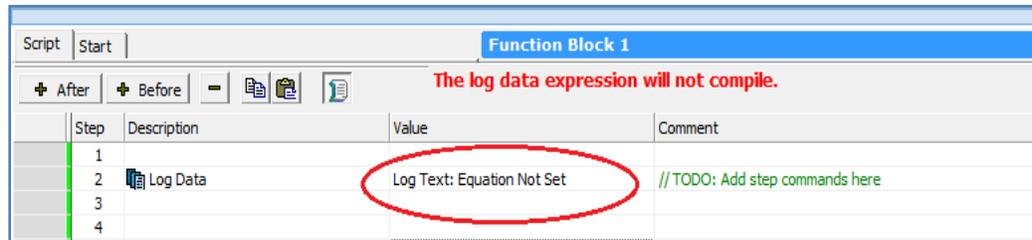
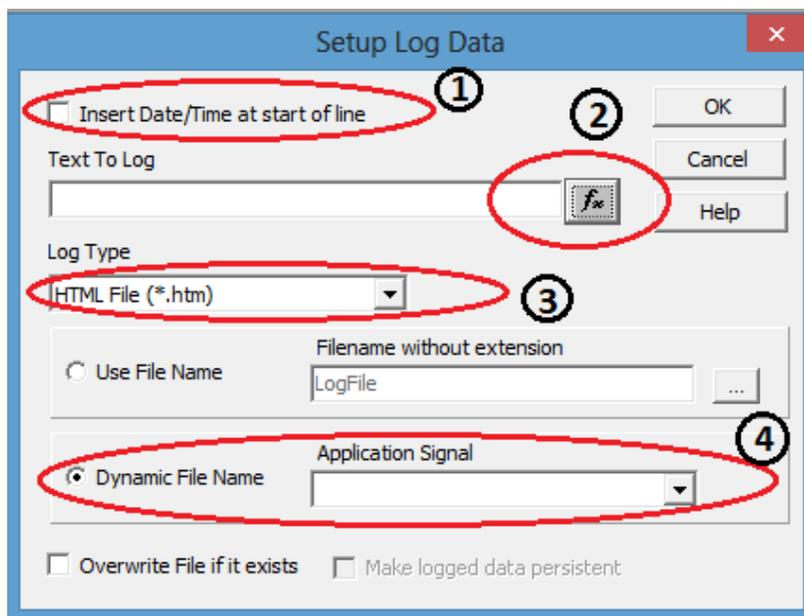
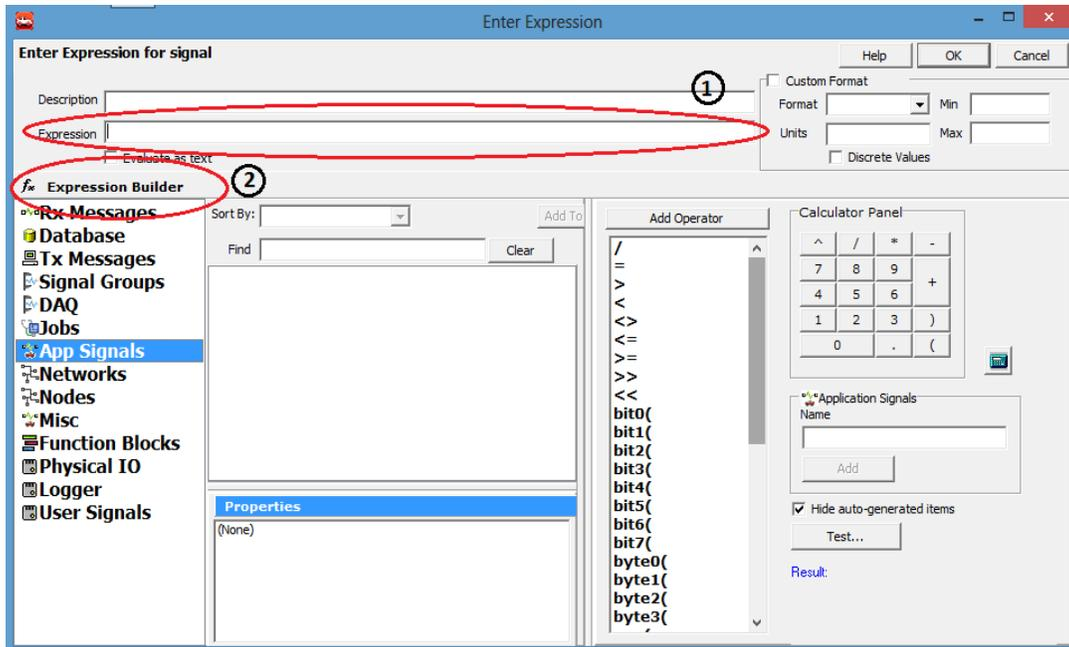

Figure 2: 'Log Data' command view
Figure 3: 'Log Data' Command setup
Figure 4: 'Enter expression' window configuration
- To open command configuration window click on value column text available 'Log Text:Equation Not set' (figure 2). It will popup the 'Setup Log Data' window (Figure 3).
- Checked box of 'Insert Date/Time at start of line' to insert date and time in report (Figure 3(1)).
- Click on 'fx' button of 'Text to Log' field (Figure 3(2)), it will popup the 'Enter expression' window (Figure 4).
- In expression field (Figure 4 (1)) write the text which we have to log in Log file (Report file). For HTML format write HTML coding.
- To log any signal value access the Application signal, Receive signal or Transmit signal from expression builder field (Figure 4(2)).
- To select file format, click on 'Log type' option .It will give the list of available file formats. Select 'HTML file (*.htm)' option to create log file in HTML format (Figure 3(3)).